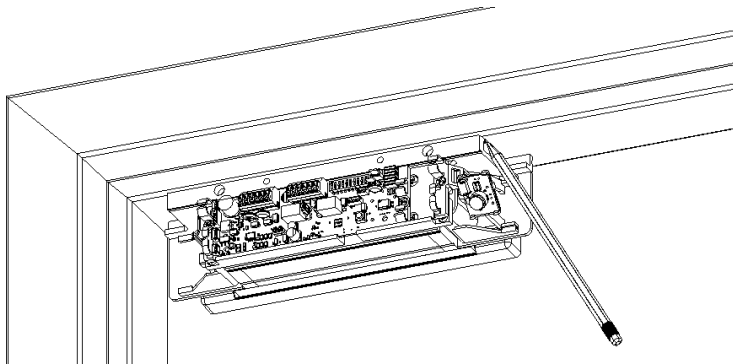

Figure 26. Marking the Back Edge of the Mounting Bracket
4. MARK back edge of mounting bracket at each end, and REMOVE the Magnalock from the bracket (see Figure 26, "Marking the Back Edge of the Mounting Bracket").